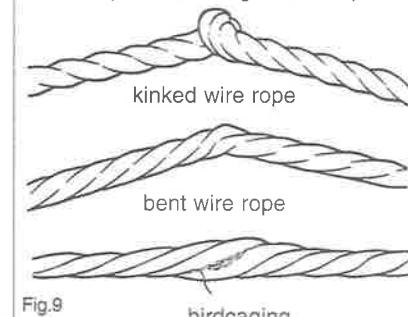

Fig.9
- Bending, loops, kinking, crushing, birdcaging, or any other distortion of the wire rope structure (See fig. 9),